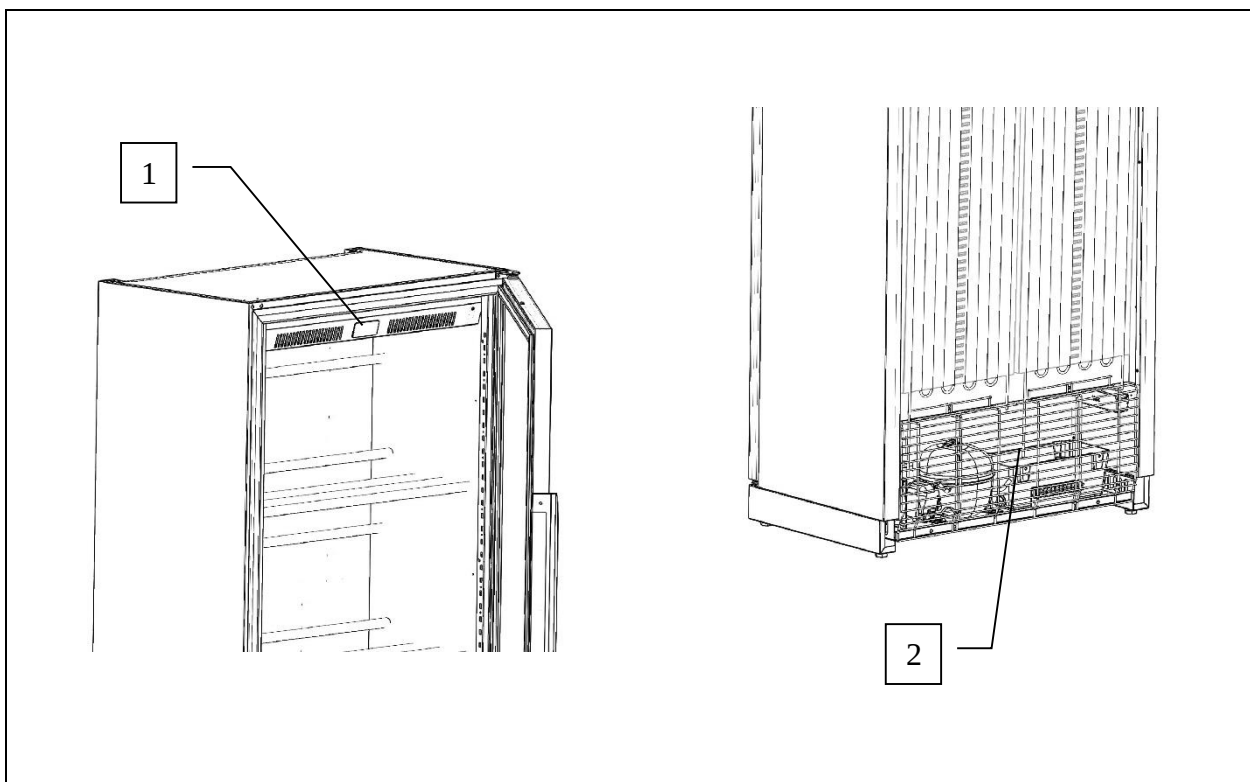

Fig. 3
- refrigerating unit (ref. 1, fig. 3);
- digital controller (ref. 2, fig. 3)